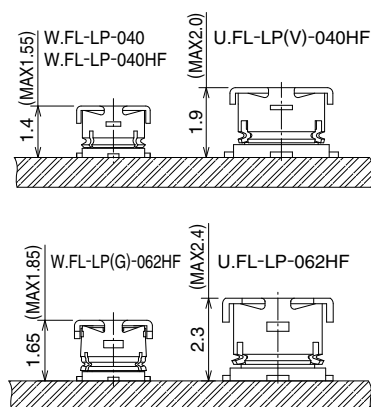

Fig.2
1. Nominal mated height of 1.4 mm or 1.65mm (Max. 1.55 or 1.85mm)(Fig.2)